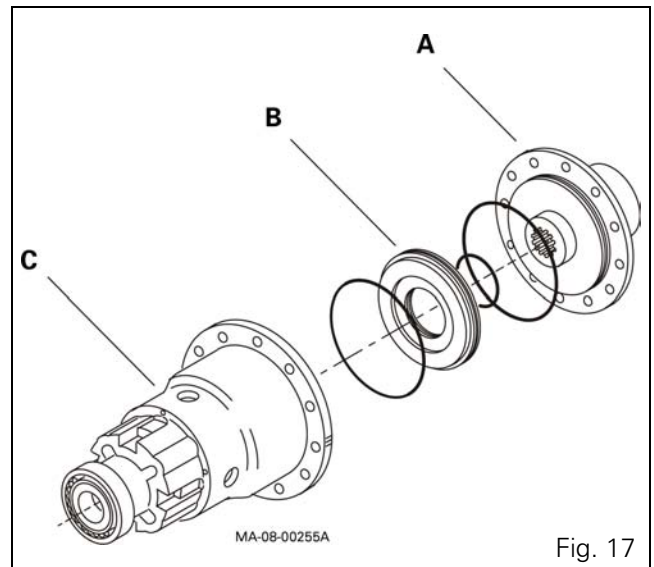

Fig. 17
27. Collect the "O" rings on the cover and the differential lock piston (internal and external housings) (Fig. 17).